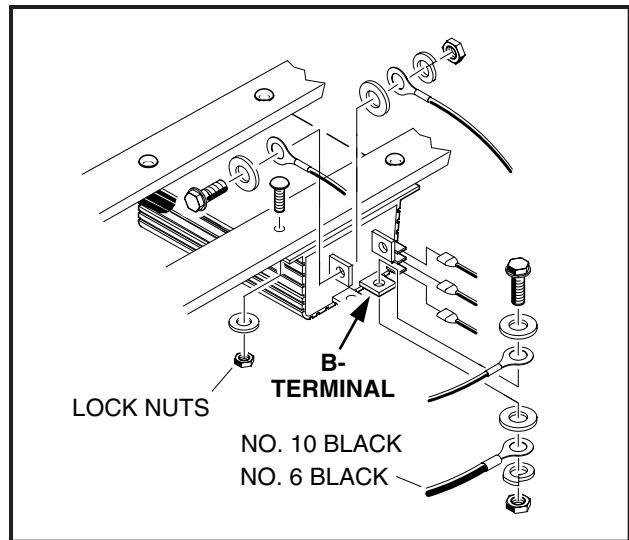

FIGURE 17-16
6. Disconnect the No. 6 and No. 10 black wires from B- of the controller (**Figure 17-16**).
3. Remove all the No. 6 wires connected to the controller (**Figure 17-16**).
4. Unplug the three No. 18 wires plugged into the controller (**Figure 17-16**).
5. Remove the four 7/16 lock nuts holding the controller (**Figure 17-16**).